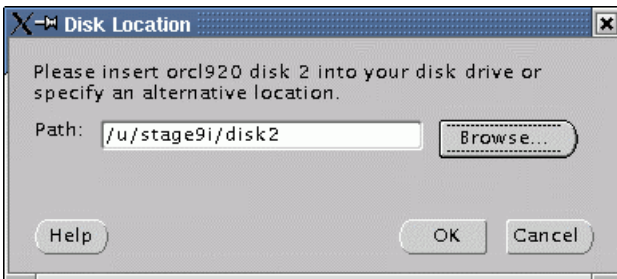

Figure 48. Disk Location
- During the installation process, you will see an installation progress window. After a few minutes, a pop-up window entitled Disk Location displays (Figure 48), asking for CD 2. Since we are installing from a staging directory, simply change `disk1` to `disk2` in the Path and click **OK** to continue.